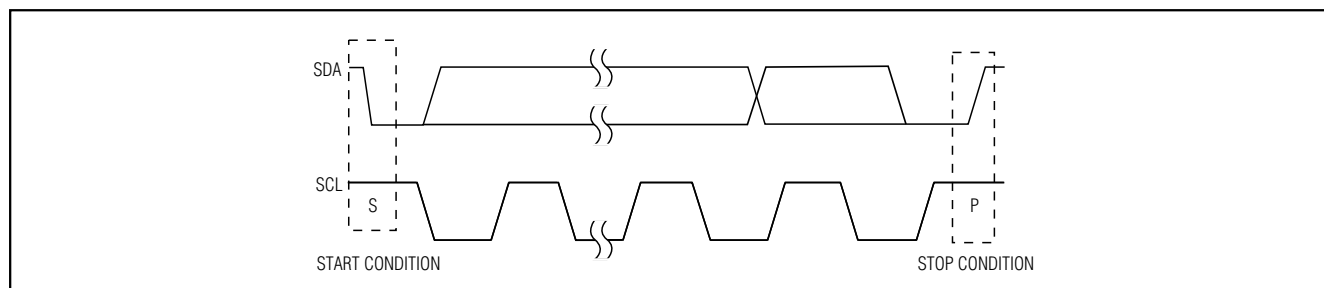
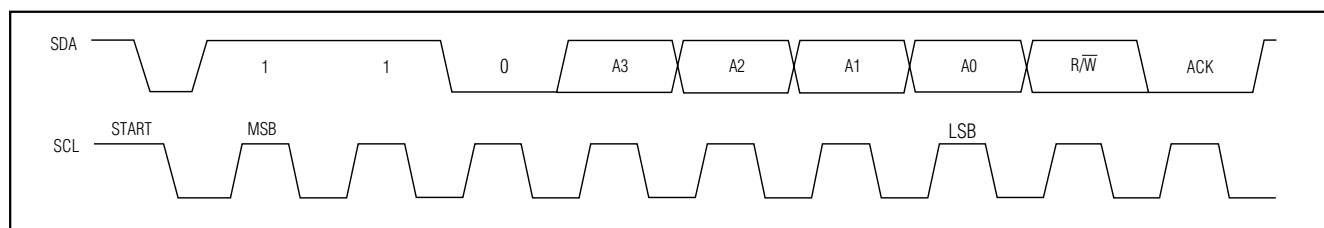

Figure 9. Start and Stop Conditions
Figure 10. Slave Address
Each transmission consists of a START condition (Figure 9) sent by a master, followed by the MAX6851 7-bit slave address plus R/W bit (Figure 10), a register address byte, 1 or more data bytes, and finally a STOP condition (Figure 9).
Both SCL and SDA remain high when the interface is not busy. A master signals the beginning of a transmission with a START (S) condition by transitioning SDA from high to low while SCL is high. When the master has finished communicating with the slave, it issues a STOP (P) condition by transitioning the SDA from low to high while SCL is high. The bus is then free for another transmission (Figure 9).
The MAX6851 has a 7-bit-long slave address (Figure 10). The eighth bit following the 7-bit slave address is the R/W bit. Set it low for a write command, high for a read command.